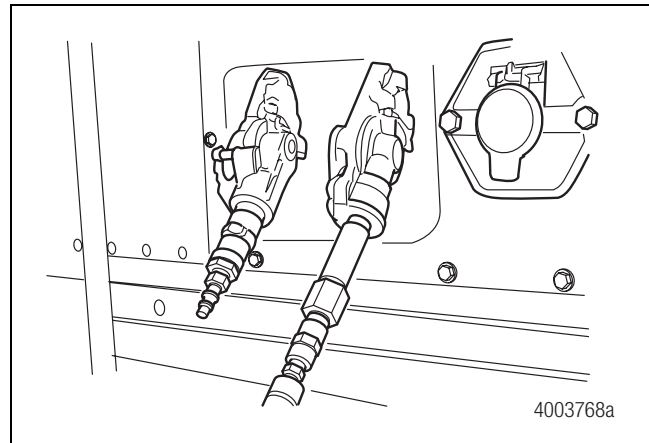

Figure 2.1
3. Attach an air line to the trailer emergency glad hand connection to back the brake linings off the drums. The linings must completely clear the drums prior to inspection. If the linings are rubbing on the drums, the inspection results may be incorrect. Figure 2.1.